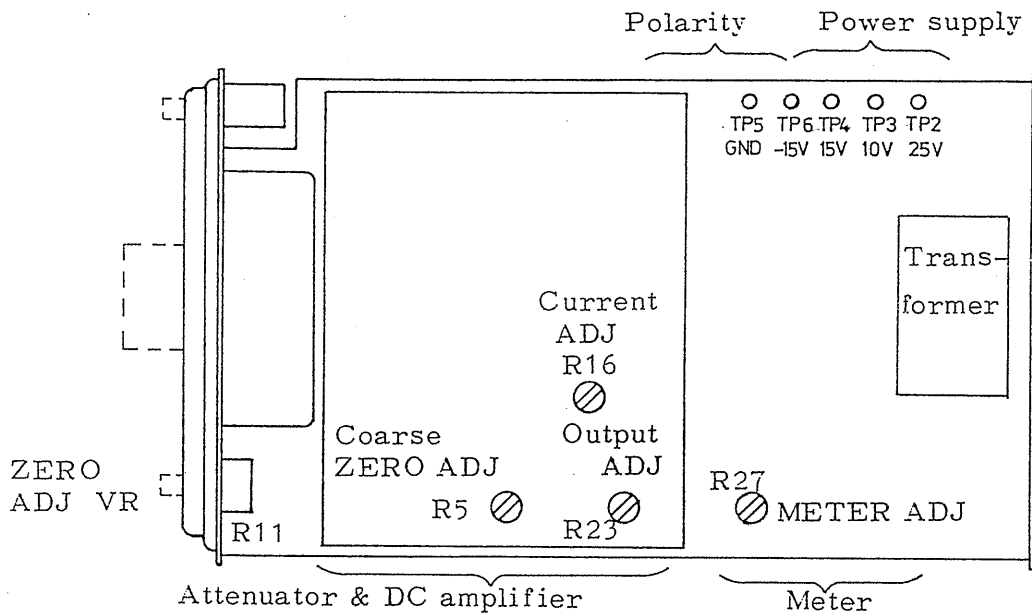

Fig. 5-1 Top View
The location of each part is shown in Fig. 5-1.
- o Connect a DC voltmeter to the output terminals so that a red terminal is high impedance side of a DC voltmeter and a black terminal is low impedance side. Apply exact +1500V to the input of the prod, and adjust the OUTPUT ADJ control R23 ( Refer to Fig. 5-1 ).
Adjust the METER ADJ R29 ( Refer to Fig. 5-1 ) so that the meter pointer indicates exactly fullscale.
- o Adjust the ZERO ADJ control R11 ( the ZERO ADJ ④ on front panel ) so that meter pointer indicates exactly zero at no input signal.
- o Connect a current calibrator to the AMPERES terminals, and apply 500 $\mu$ A. Adjust the CURRENT ADJ control R16 ( Refer to Fig. 5-1 ) so that meter pointer indicates exactly full scale.